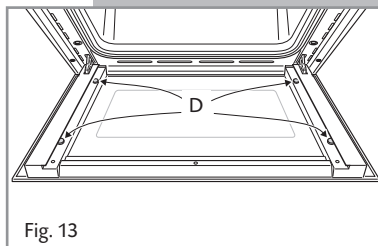

Fig. 13
- Check that the four rubber pads are in place (**D** in Fig. 13).